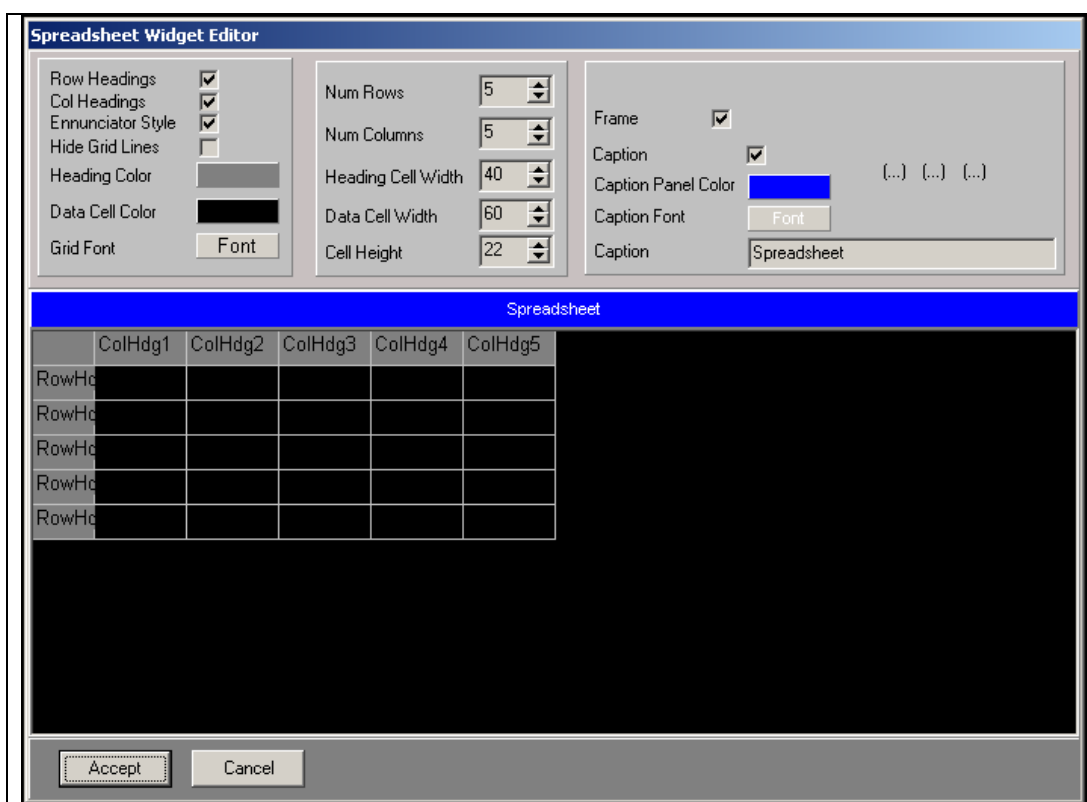
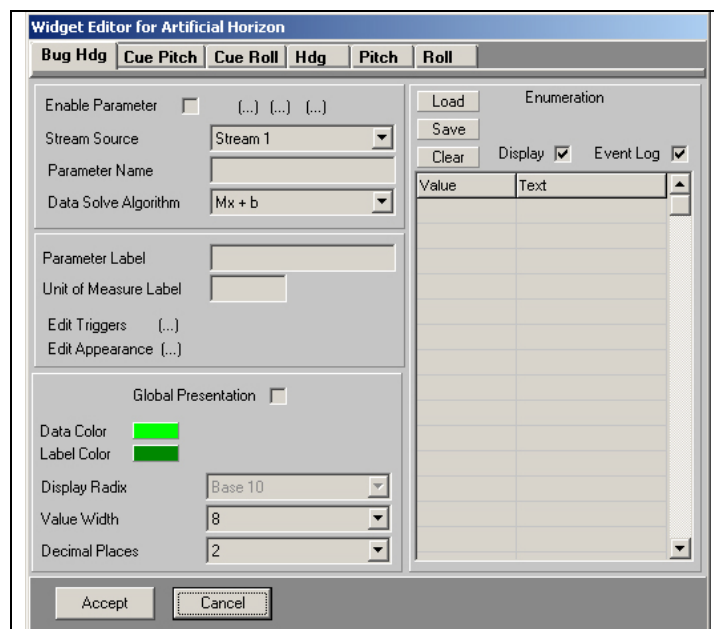

Figure 3-41 Properties Editor (Spreadsheet Widget)
Figure 4-1 Widget Editor (Artificial Horizon)
spreadsheet widget can display up to 256 (16 x 16) individual parameters from up to twelve (12) streams, including formulas and functions. The properties editor for the spreadsheet widget is shown in Figure 3-41 below. The user may select the number of rows and the number of columns as well as control the cell height and width. To enter a column or row heading, double click on the column or row heading and enter the desired text in the dialog box.
In general, if one right clicks on any display widget, the widget menu, like the one shown right will be displayed. The mouse menu has three commands: **Properties**, **Copy to Clipboard**, and **Delete**. Select the properties command to invoke the widget properties editor. An example of the widget properties editor is shown in Figure 4-1 on page 51. For the majority of display widgets, the appearance of the properties editor will remain the same. Exceptions, like the properties editor for the spreadsheet widget shown in Figure 3-41 on page 47, are documented in this manual. The Copy to Clipboard command allows the user to copy the selected widget to the widget clipboard (not to be confused with the Windows clipboard). The delete command allows the user to remove the selected widget, or group of widgets from the display. One may also select a widget and press the Del key on the keyboard to achieve the same effect.
Each display widget in LDPS is setup and configured via the widget properties editor. In general, the look and feel of the properties editor is the same for all widgets, although there are a few exceptions. As an example, the properties editor for the *Artificial Horizon* widget is shown in Figure 4-1 below. A detailed explanation of the various portions of the properties editor is presented in the following numbered paragraphs.
As changes are made to the properties, the widget reflects the change immediately. Canceling from a property editor results in the original properties being restored. The properties are different for each widget. There are at least two property setup windows for each widget. The first property setup window is fairly generic for all widgets, and is typified by the window shown in Figure 4-1 above. The first property setup window is where one enters the parameter information, as well as enumeration and basic display characteristics (like number of decimal points). The second property setup window is typically very different for each type of widget. Here, one sets up the appearance of the widget and configures items such as the background color, captions, needles, etc.
The first property setup window is where the initial configuration of each parameter in the widget is made. As shown in Figure 4-1, there are seven basic sections in the first property setup window. Each section is described in the following paragraphs.